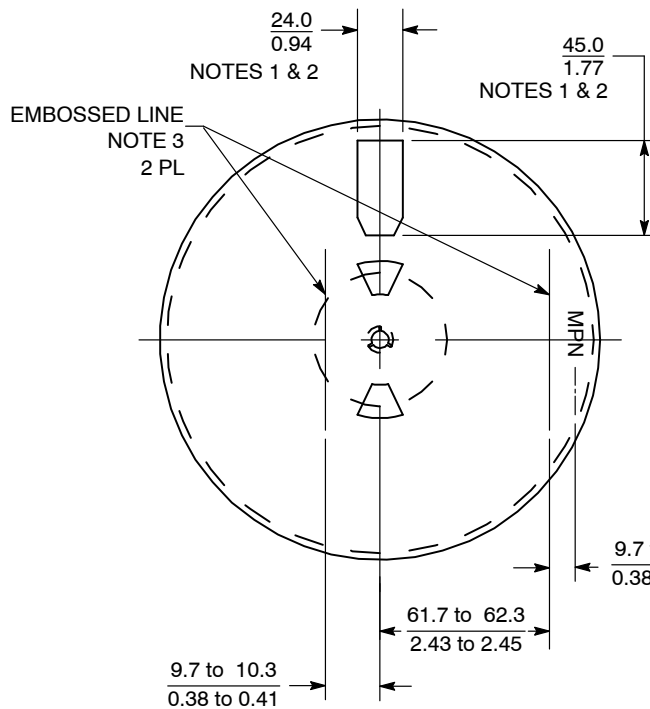

Figure 37. Front View of 178 mm (7.0 in) Reel
- If there are any flange openings on the front side of the 178 mm (7.00 in) reel they must be designed in locations so that two of the 41.3 mm (1.65 in) ON Semiconductor barcode labels can be applied parallel to each other as in Figure 37.
- Flange opening on the front and the back of the reel are a supplier option but must meet all of the requirements in Note 1. The preferred size for the 176 mm (7.0 in) reel is shown in Figure 37.
- The embossed lines on the reel are a option. If the lines are used they must be located as in Figure 37 and 38. They must be a minimum 38 mm (1.50 in) long. The thickness is a manufacturer's option and not to be used for inspection criteria.